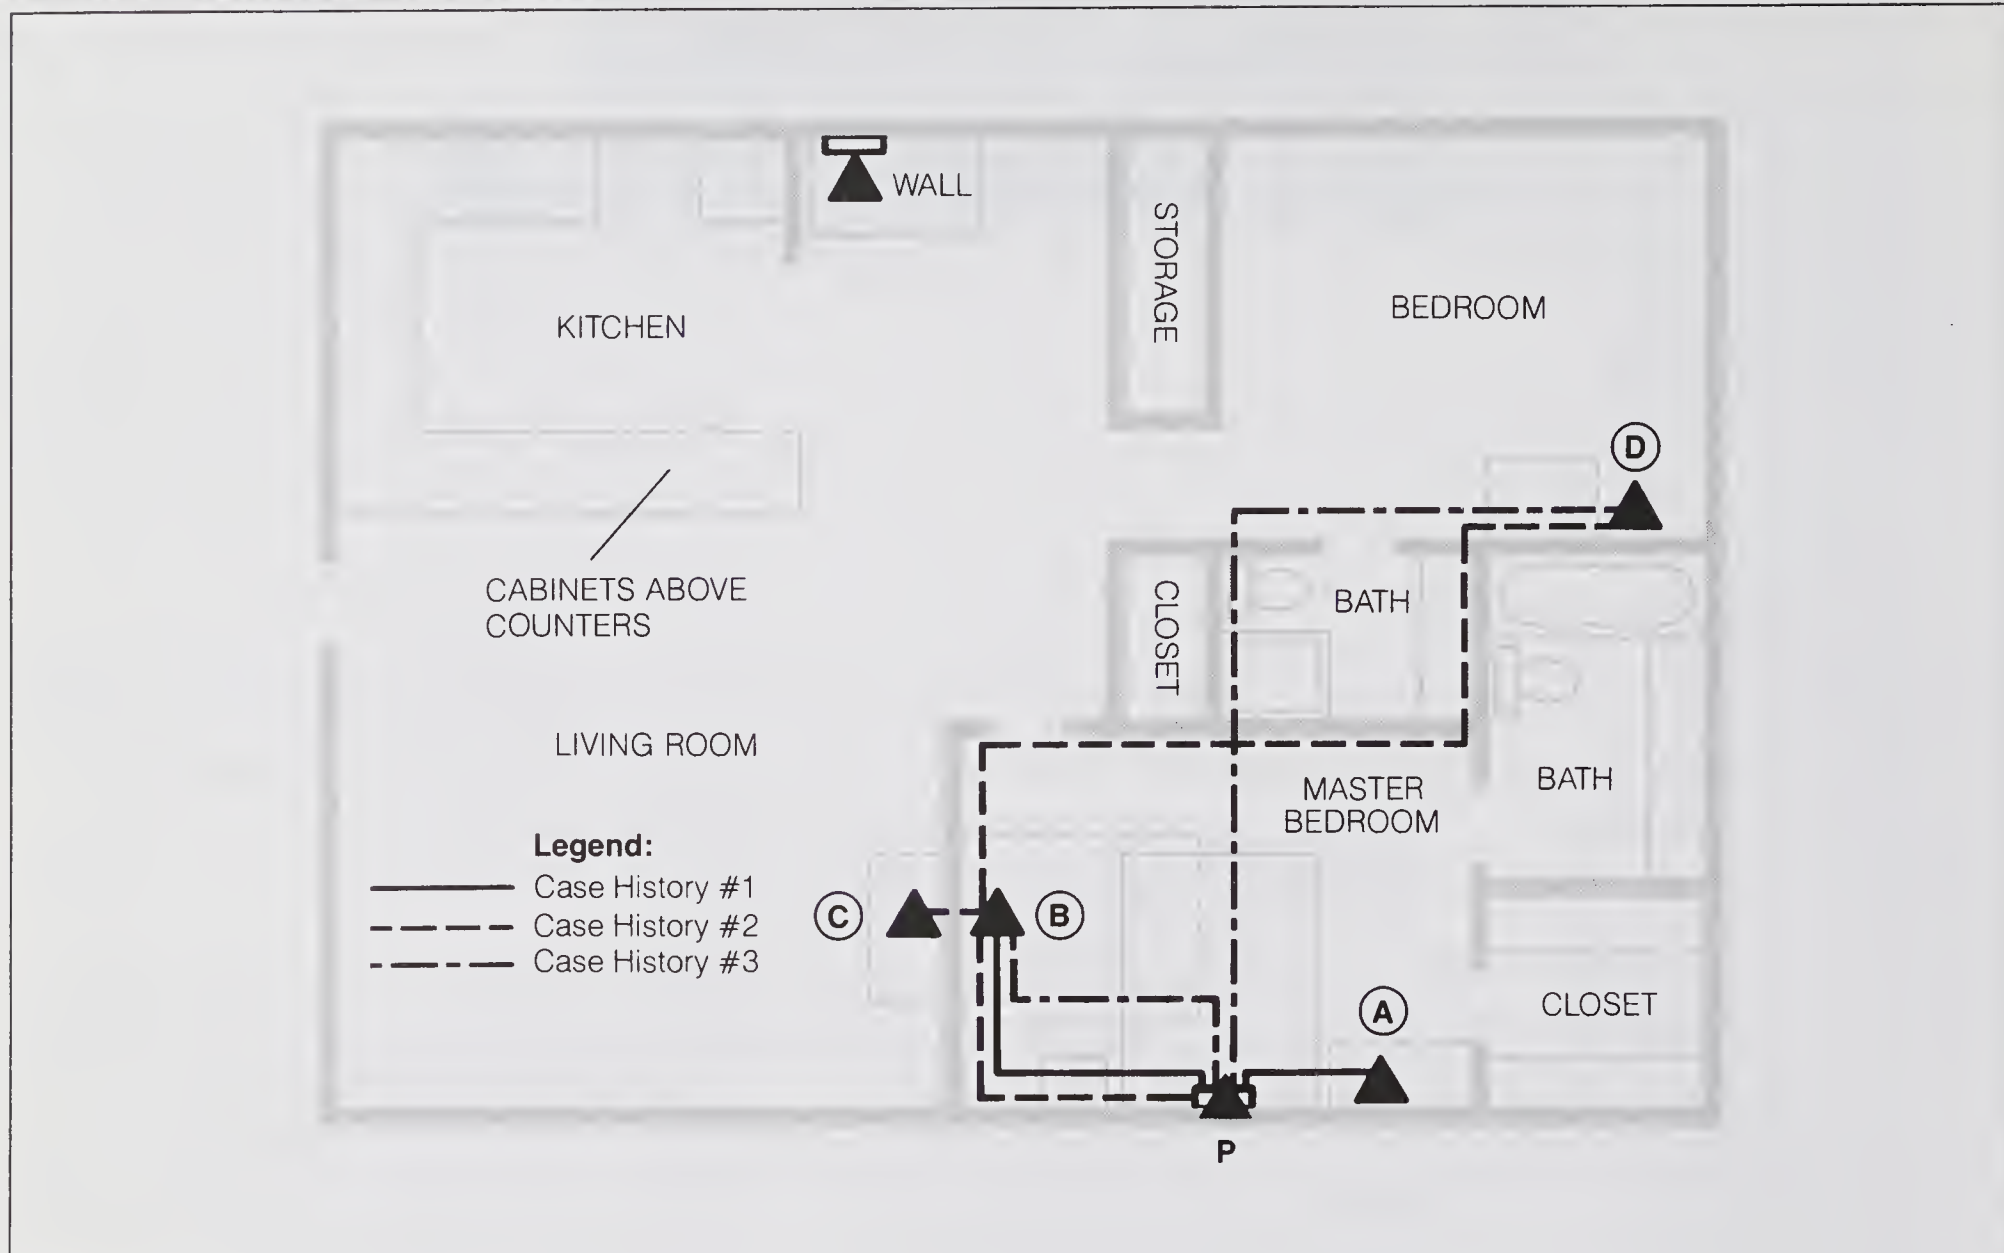
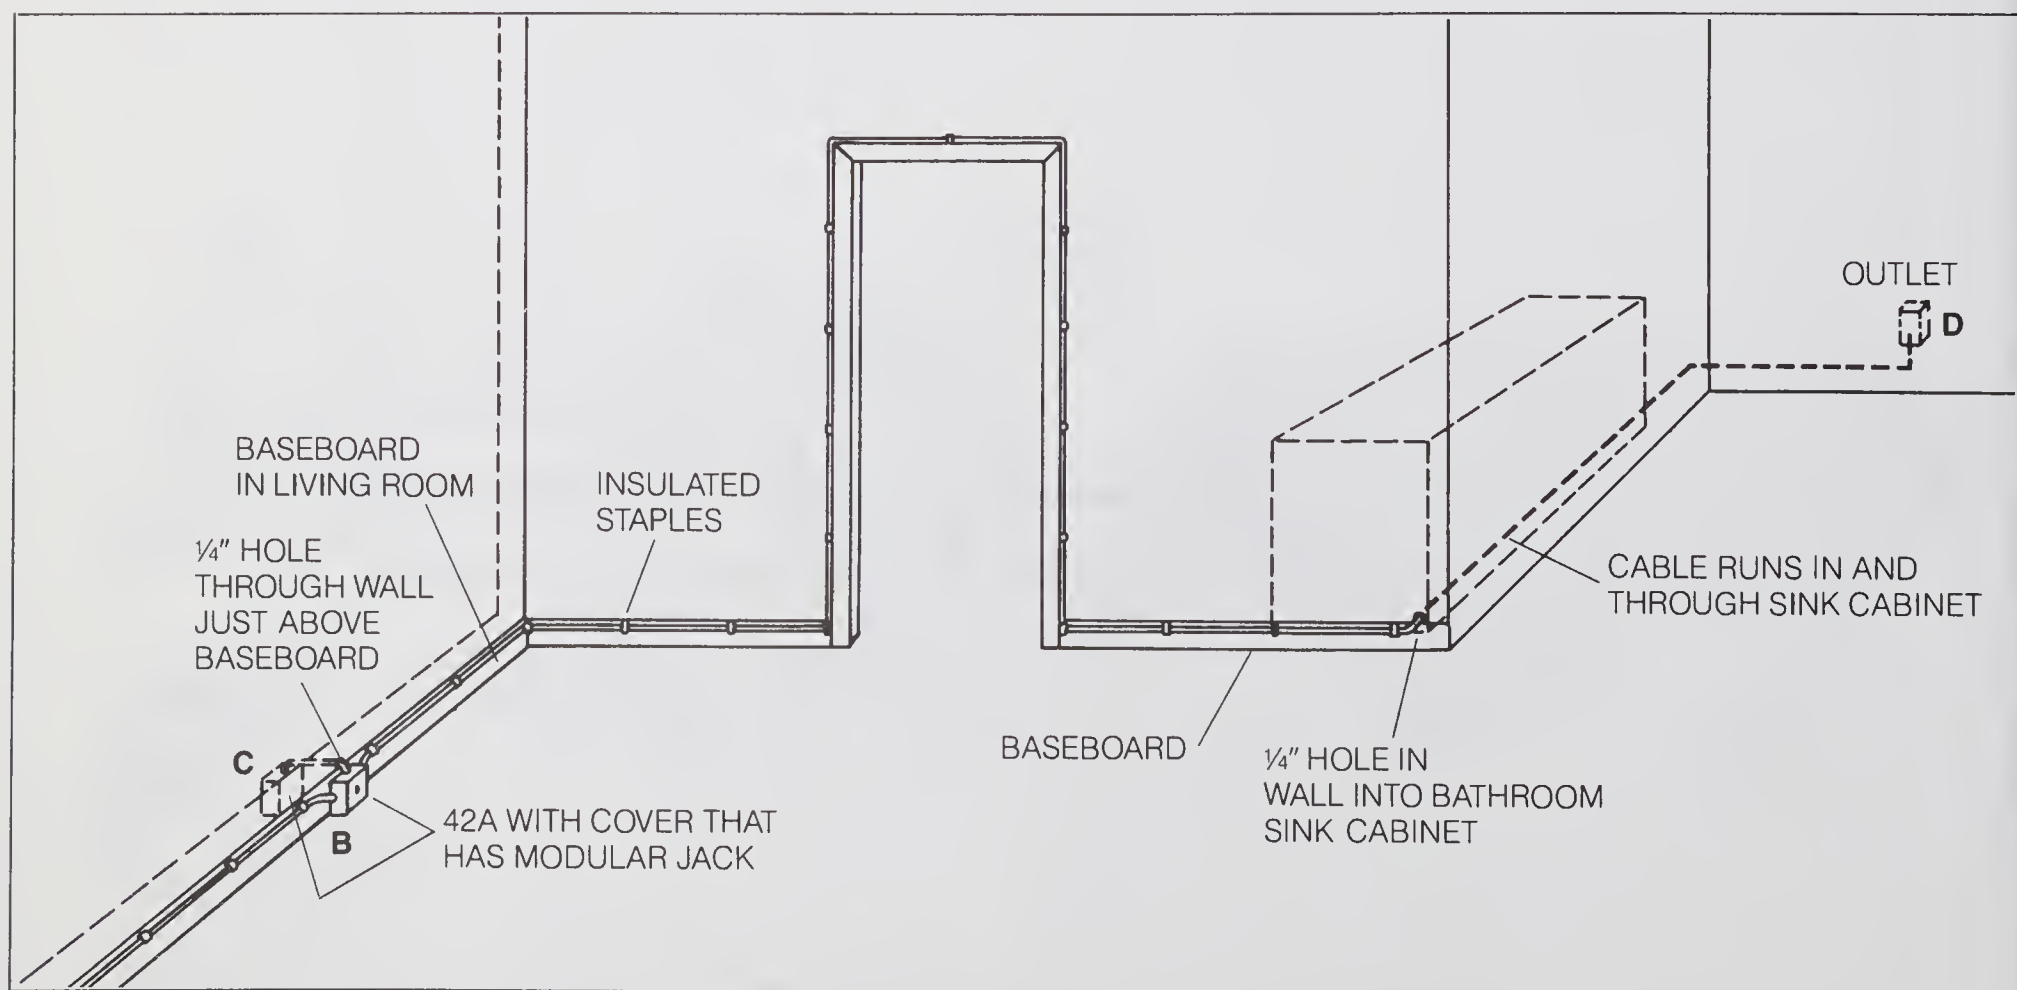

Figure 6-1.
Figure 6-4.
Figure 6-1 is the same apartment floor plan as shown in *Figure 3-1*. However, more detail has been added. The cabinets and closets are located so they may be used effectively if required to conceal cable installed for the added telephones. Also, the present location of the bed in the master bedroom is shown.
A second rearrangement of *Figure 6-1* moves the bed to the new location indicated by dotted lines, but the desk is not installed in the master bedroom. It is installed in the living room as indicated by the dotted lines. As a result, an outlet at B and C are required. In addition, a telephone is to be added for the children in the back bedroom. An outlet D is required for this telephone. Here is how the outlets are installed:
1. Plan the installation by plotting the cable runs on the floor plan (As shown on *Figure 6-1*). Make a bill of materials and purchase the parts. In this case an extension cord shown in *Figure 6-2c* again is run from P to the outlet B. No duplex jack is required at P. At B, a 42A block is used as a junction point for cable runs to outlet C and D. It is mounted on the baseboard and has a quick-connect jack as a cover which provides the modular jack for outlet B. The quick-connect jack may connect to the 42A block with spade lugs or snap-on connectors (See *Figure 2-6* and 4-5) or it could be a universal instant jack as shown in *Figure 4-4*. A cable goes through the wall right at the baseboard to make the connection to a 42A block for outlet C which is the same type outlet as B. The installation is shown in *Figure 6-4*. The cable for outlet D runs from the 42A block at B along the baseboard, around the doorframe, along the baseboard, through the wall to the sink cabinet in the bathroom, through the bathroom inside the sink cabinet, through the cabinet and wall into the bedroom, along
6. Drill a $\frac{1}{4}$ " hole through the master bedroom wall to the living room right above the baseboard. It should come out slightly above the baseboard in the living room (*Figure 6-4*).
10. Drill a $\frac{1}{4}$ " hole through the master bedroom wall and bathroom cabinet right above the baseboard as shown in *Figure 6-4*.
As a comparison of installations, let's assume that the apartment of *Figure 6-1* has a basement and there is access from underneath the floor (apartments constructed on piers and beams or apartments over garages might have a similar access). Following are typical kinds of steps one would go through for this type installation.
1. Plan the installation by plotting the cable runs on *Figure 6-1*. Make a bill of materials and purchase the parts. In this case cables are run from outlet P to the other outlets by drilling a hole through the bottom plate of the wall and inserting the cables into the wall from underneath. The modular jack in outlet P is used as a junction point for two cables (X and Y) that run under the floor, one to outlets B and C (X) and one to outlet D (Y). All outlets are rectangular modular jacks mounted in electrical outlet boxes that have the special tab for mounting in drywall after the drywall is in place (See *Figure 5-9*). The cables run along the floor joists underneath as far as they can and then cross the joists to get to the outlet position.